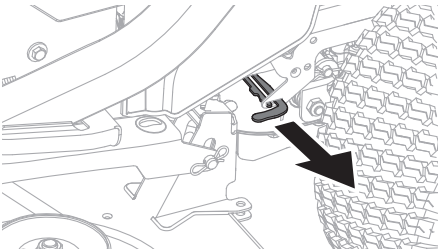

Fig. 2
1. To engage the transmission bypass tabs, pull tab out. Repeat on opposite side (Fig. 2).